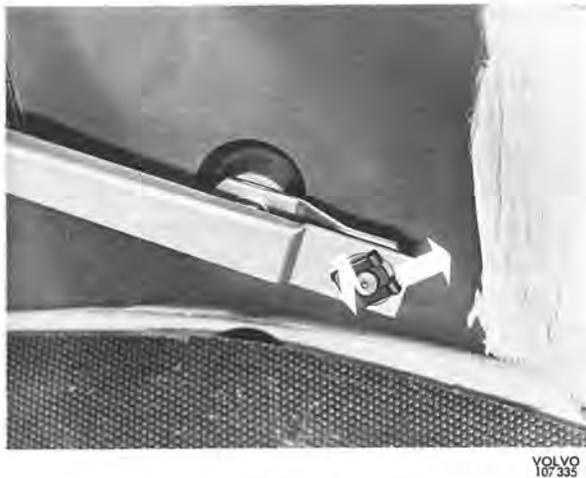

Fig. 3-101. Removing lock
1. Remove the drive link from the lever on the wiper motor after having first removed the lock device, see Fig. 3-101.